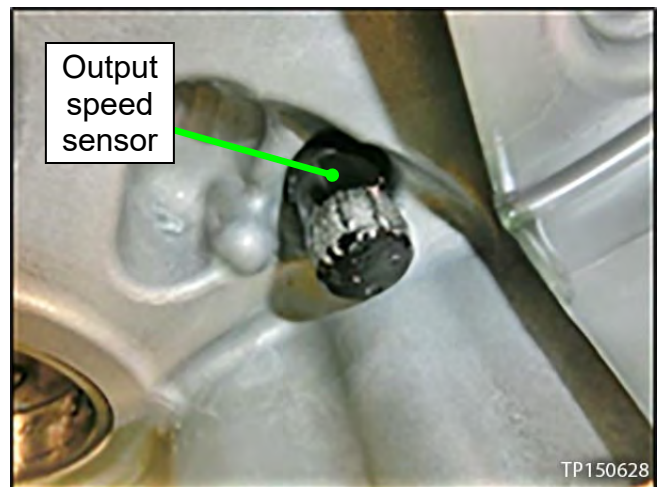

Figure 16
5. Thoroughly clean off the end of the output speed sensor (see Figure 16).